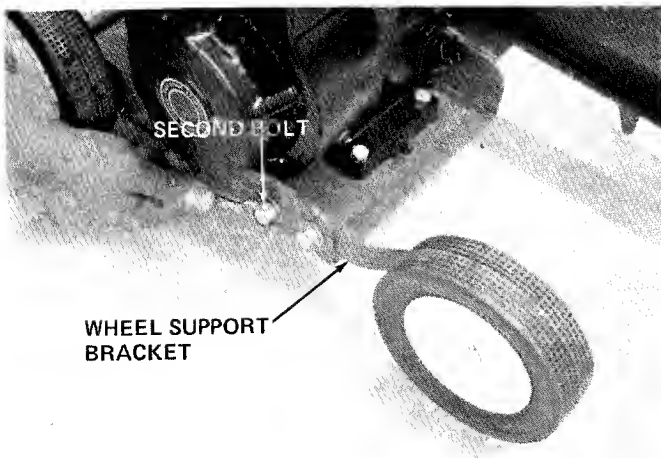

FIGURE 12
1. Loosen the second bolt on the front wheel support bracket. Pivot the bracket up or down to desired height. Retighten bolt. See figure 12.